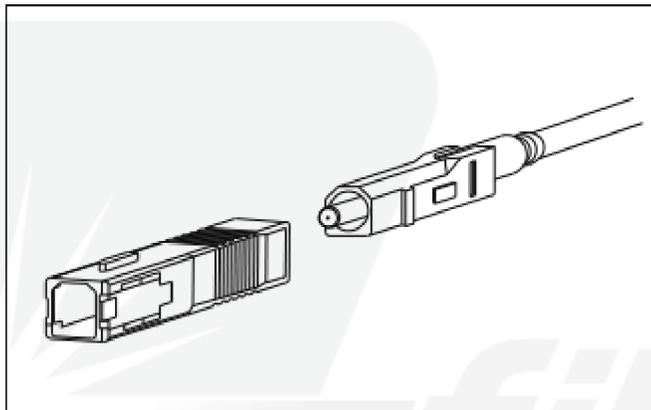

Figure 17: The coupling sleeve and plug frame must be oriented correctly to ensure proper assembly.
19. After a successful polish has been completed, assemble the blue coupling sleeve. This is achieved by first sliding up the bend relief boot. Insert the coupling sleeve, knurled end first, over the white body. Orient the sleeve so the tapered side of the sleeve fits into the tapered side of the body (see Figure 17). Hold onto the rear body of the connector tightly so the cable doesn't bend while assembling the sleeve. The coupling sleeve should lock into place when properly seated. Pulling on the sleeve in an outward motion should not free the coupling sleeve from the body. It should, however, be free to slide back and forth with little resistance.